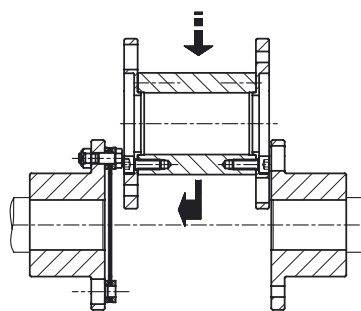
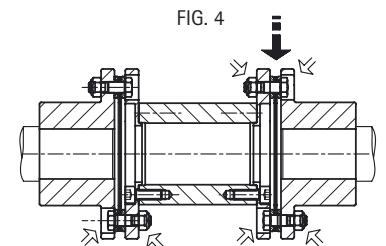

FIG. 3
FIG. 4
4.1.5 Install the spacer (4) between the hubs and connect it to the already assembled disc-pack (3) with screws (2) and nuts (5), in the direction shown on the fig. 3 (in case of long spacer, it is essential to support the spacer in position from the beginning to the end of the assembly). Tighten to torque T mentioned in the tabulation while holding the screws still and turning the nuts.
4.1.6 Engage the fig. 4).
- 4.1.5 Ensure that both hub faces (8) and (9) and sandwich flange (1.3) are perfectly degreased. Introduce floating assembly between the two hubs (fig. 3). Remove the shipping screws (15) with rings (17) and shipping inserts (16) at each end (fig. 4). The floating assembly must be maintained in position by the two hubs (8)